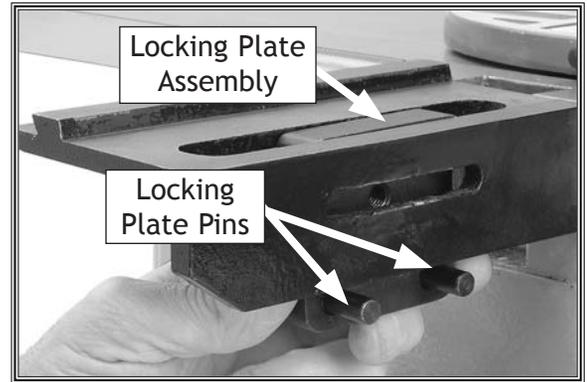

Figure 10. Inserting the locking plate.
2. Insert the locking plate assembly into the fence support, positioning it so the two pins are against the bottom edge of the fence support, as shown in **Figure 10**.